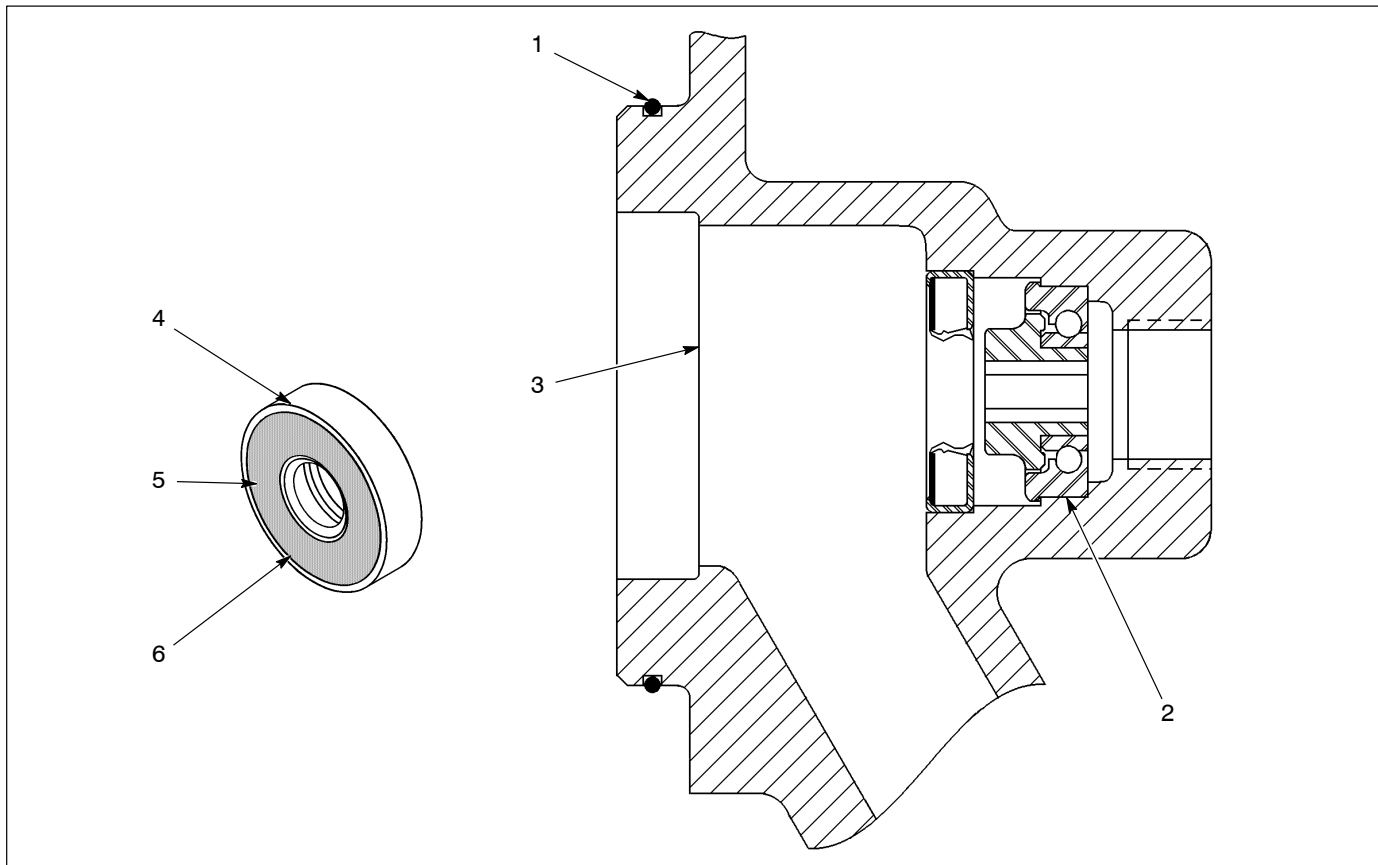

Fig. 6 End Cap Cutaway View
- b. Carefully press a new bearing into the sieve housing (oriented as shown in Figure 6).
- c. See Figure 6. Fold the seal lip away from the shield (5) and remove the spring from the seal, if present. Press the new seal assembly (3) into the end cap. The side of the seal with the lip (6) that folds away from the shield is the side that faces away from the bearing (2).